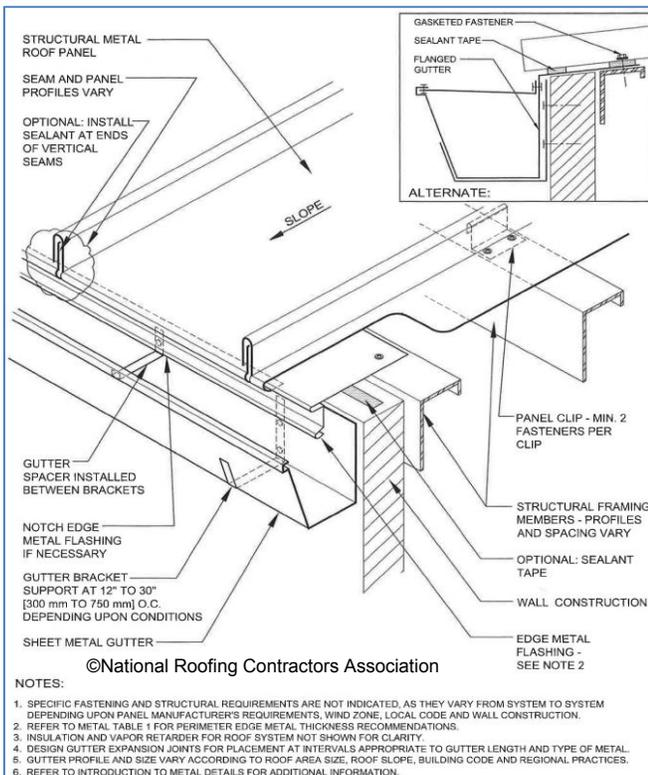

Figure 10-65
- Figure 10-65, "T"-Type Downslope with Gutter and Brackets